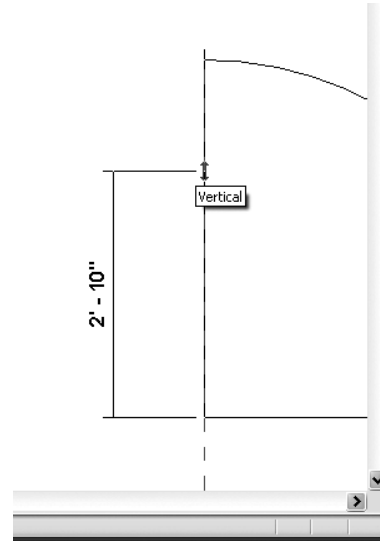

Figure 3-1.13 Drawing another Detail Line; 600'-0" vertical line – lower right
36. Move the cursor (i.e., mouse) straight up from your first point so that the line snaps to the vertical and the dashed line appears (Figure 3-1.13).